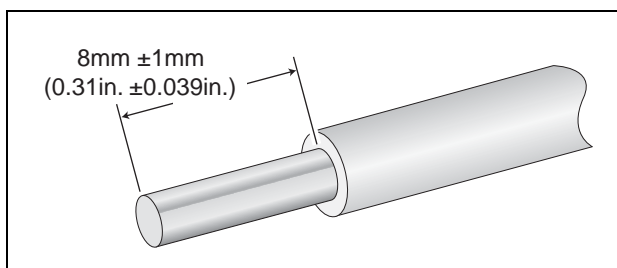

Figure 55. Stripped Wire
4. With a 14-gauge wire-stripping tool, strip the three wires in the tray cable coming from the DC input power source to $8\text{mm} \pm 1\text{mm}$ ($0.31\text{ in.} \pm 0.039\text{ in.}$), as shown in Figure 55 on page 96.